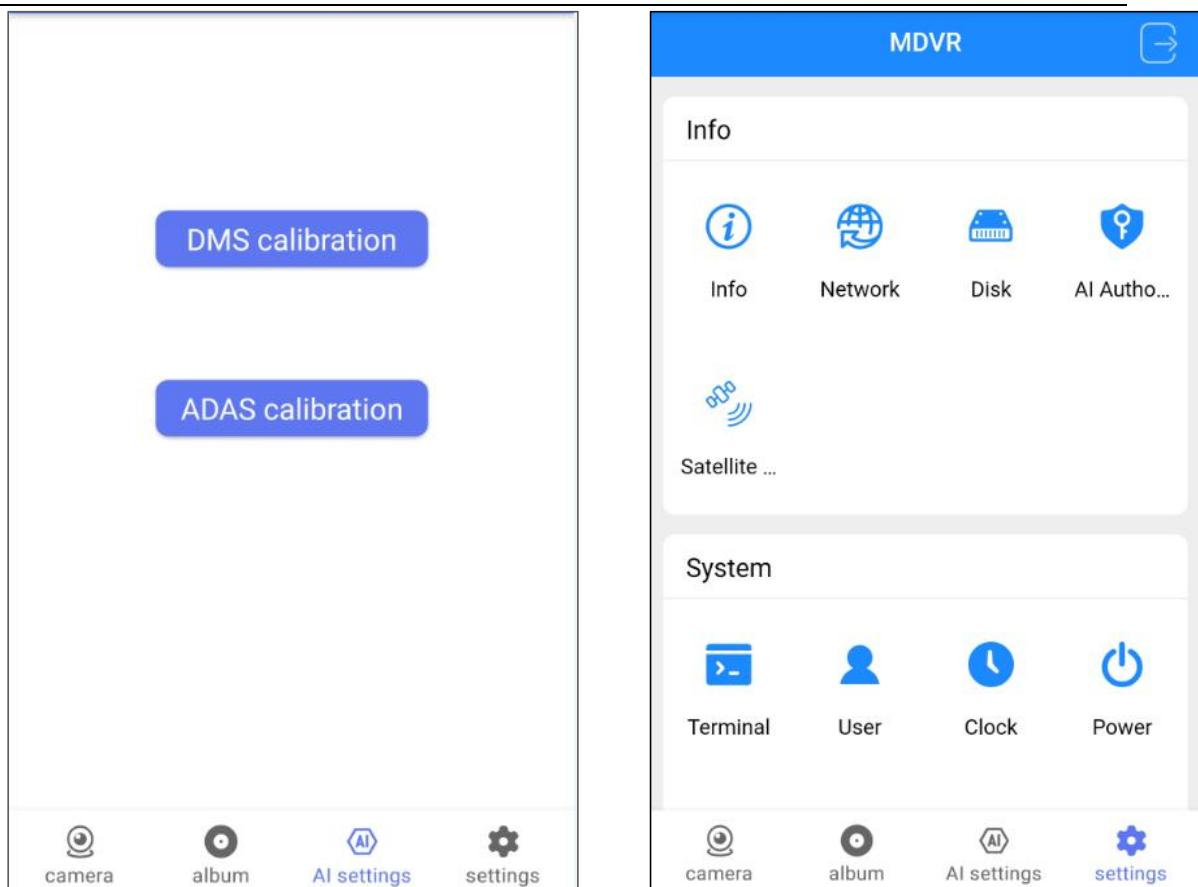

Fig.3.4 Home page
Step 3: Then you will get the homepage. (Fig.3.4)